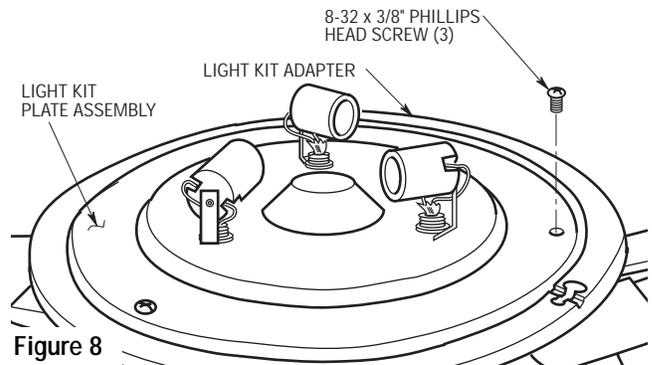

Figure 8
- 18. Secure the light kit plate assembly to the light kit adapter by threading three 8-32 x 3/8" phillips head screws (supplied) into the threaded holes in the adapter assembly. (Figure 8).